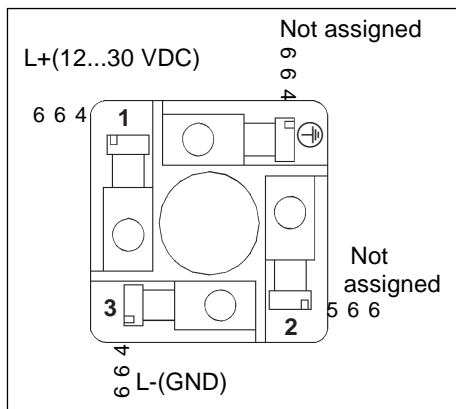

Fig. 3.3 Connection with cable plug
3. Connect according to the pin assignment in fig. 3.3.